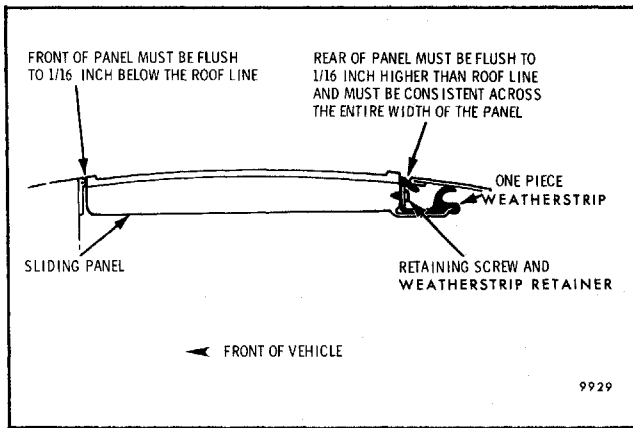

Fig. 8-92- Proper Front and Rear Sliding Panel Adjustment - C Styles Shown, E and K Similar
4. Raise or lower panel as front alignment must be flush to 1.6 mm (1/16") below roof line (Fig. 8-92).
4. Raise or lower adjusting screw to obtain a flush alignment to outer roof panel (Fig. 8-92).
6. Raise or lower pivot pin to obtain a flush to 1.6 mm (1/16") high alignment of glass panel to roof line (Fig. 8-92).